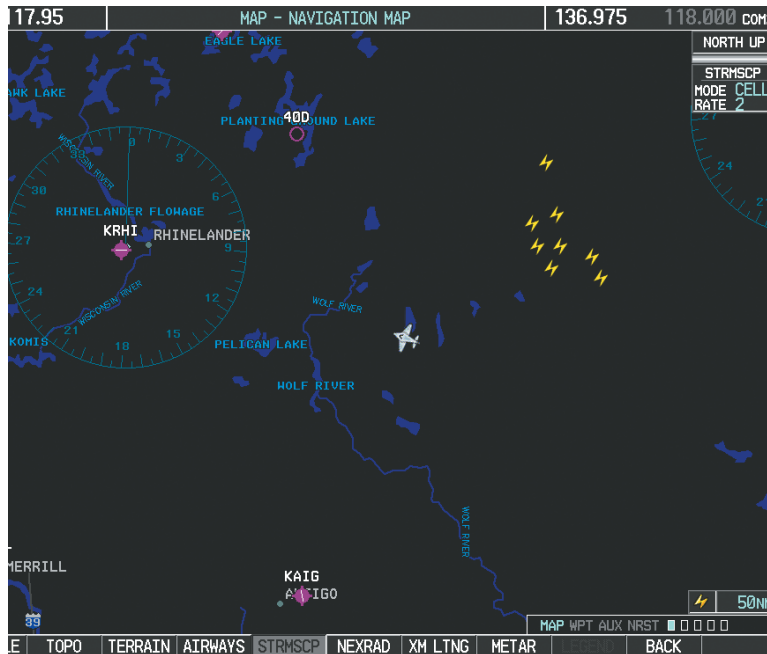

Figure 6-131 Navigation Map Page with Stormscope Lightning Data
- 7) Press the **FMS** Knob to return to the Navigation Map Page (Figure 6-131).
On the Navigation Map, cell mode identifies cells of lightning activity (Figure 6-131). Stormscope identifies clusters of electrical activity that indicate cells. Strike mode indicates the approximate location of lightning strikes. **Selecting the 'cell' or 'strike' mode on the Navigation Map:**